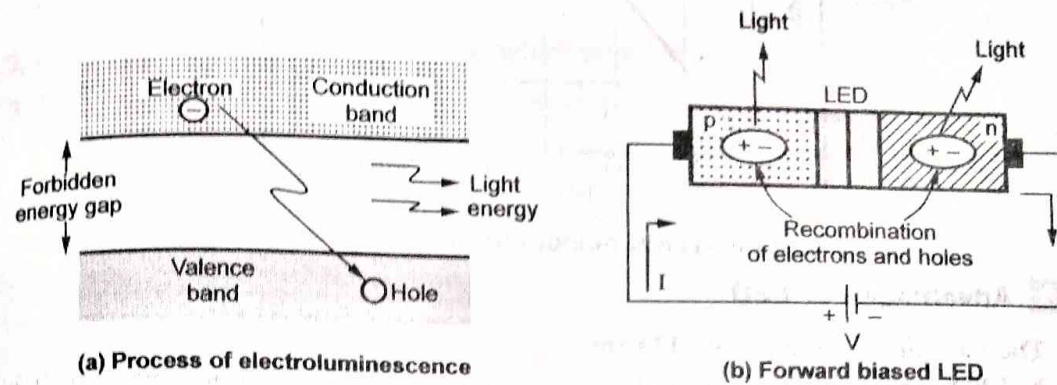

Fig. 3.1.2 Principle of operation of LED
- Fig. 3.1.2 shows the principle of working of LED.